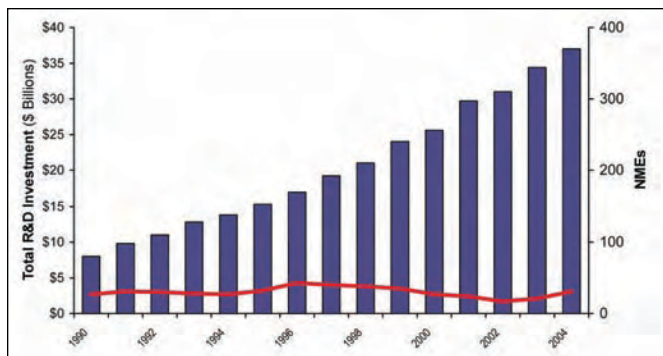

Figure 3. Pharmaceutical industry productivity vs. R&D investment. (Source: Pharmaceutical Research and Manufacturers of America (2000, 2008))
The business environment for large pharmaceutical companies has changed considerably in recent years. The cost of developing a new drug (Figure 1) has risen nearly four times to \$1.3 billion since 19871 and pharmaceutical companies are now spending an average of 17 percent of sales (Figure 2) or about \$3 billion per year on R&D activities. At the same time, pharmaceutical companies also are witnessing an industry-wide decline in R&D productivity - *Figure 3*. These pressures are prompting an increasing number of pharmaceutical companies to undertake various change initiatives ranging from mergers and acquisitions and partnering with biotechnology firms to strategically outsourcing a number of activities across the value chain, including support functions such as Information Technology (IT), human resources, and finance to control costs and improve revenues by reducing the time-to-market of new drugs.